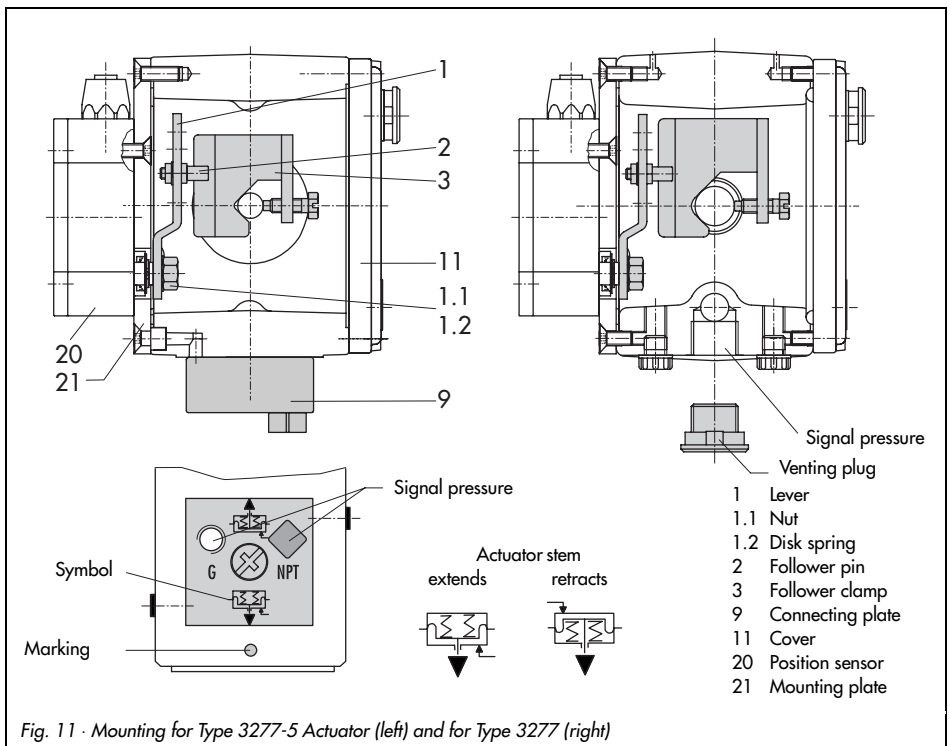

Fig. 11 · Mounting for Type 3277-5 Actuator (left) and for Type 3277 (right)
The signal pressure from the positioner is routed over the signal pressure connection of the connecting plate (9, Fig. 11 left) to the actuator diaphragm chamber.
- ▶ Turn the connecting plate (9) so that the correct symbol for the fail-safe position "Actuator stem extends" or "Actuator stem retracts" is aligned with the marking (Fig. 11, below).
- ▶ Make sure that the gasket for the connecting plate (9) is correctly inserted.